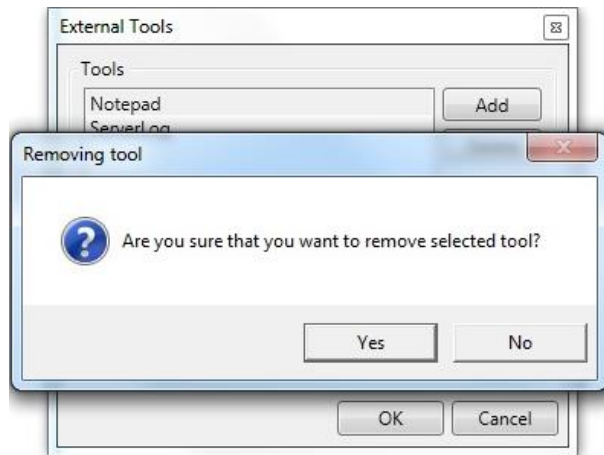

Figure 5-24: Deleting an External Tool
- Click Yes to the prompt as shown in Figure 5-24.